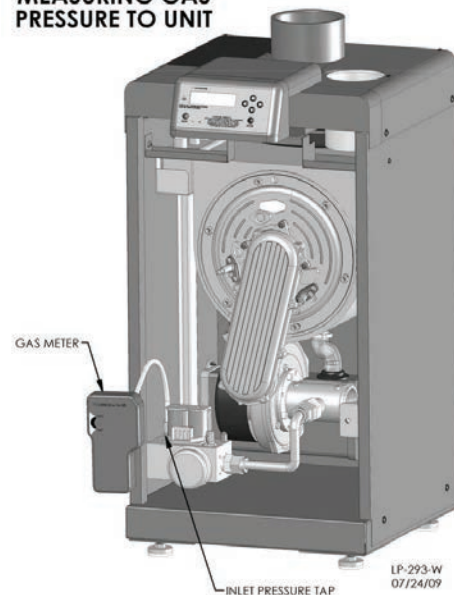

Figure 30 - Measuring Gas Pressure
2. Loosen the pressure tap with a small screwdriver. Refer to Figure 30 for location.
3. Each unit is equipped with a needle valve that will accept a 5/16 ID hose to connect to a digital manometer or liquid gauge to measure incoming pressure from 0-35" w.c. See Figure 30.